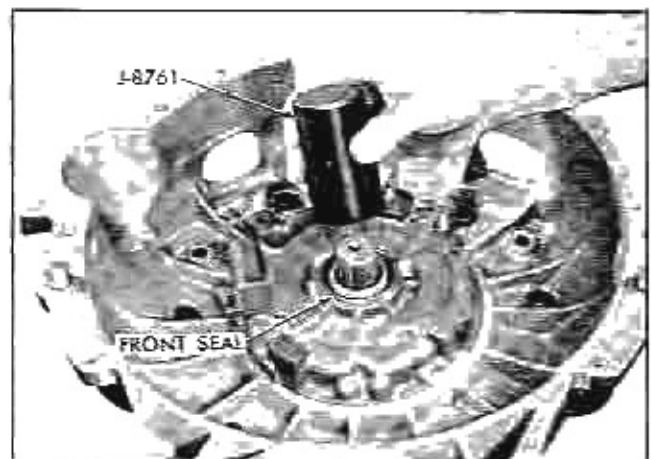

Fig. 126 Installing Front Seal
5. Install front seal, rubber lip down, using J-8761 (Fig. 126). Rotate transmission back to horizontal position, bottom up.